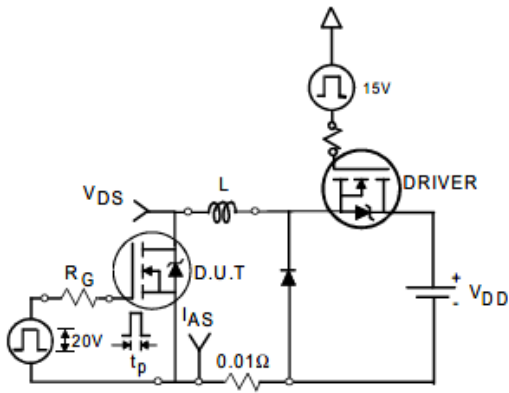

Fig. 12a. Unclamped Inductive Test Circuit
- ③ $I_{SD} \leq 125A$, $di/dt \leq 260A/\mu s$, $V_{DD} \leq V_{(BR)DSS}$, $T_J \leq 175^\circ\text{C}$.
- ④ Pulse width $\leq 400\mu s$; duty cycle $\leq 2\%$.
- ⑤ $C_{oss\ eff.}$ is a fixed capacitance that gives the same charging time as C_{oss} while V_{DS} is rising from 0 to 80% V_{DSS} .
- ⑥ Calculated continuous current based on maximum allowable junction temperature. Package limitation current is 90A.
- ⑦ Limited by T_{Jmax} , see Fig.12a, 12b, 15, 16 for typical repetitive avalanche performance.
3. Equation below based on circuit and waveforms shown in Figures 12a, 12b.